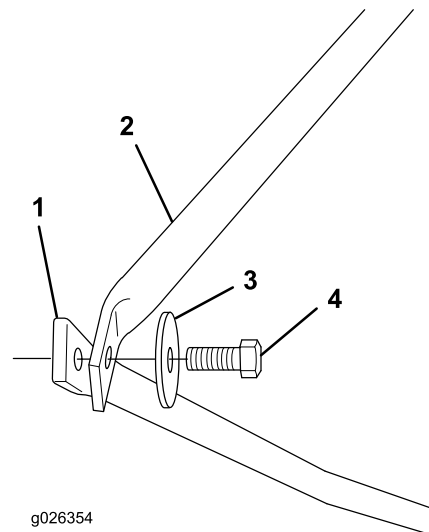

Figure 5
9. For each side, align the holes in the frame ends in the rear, insert a bolt (with a washer) through the holes from the inside (Figure 5).